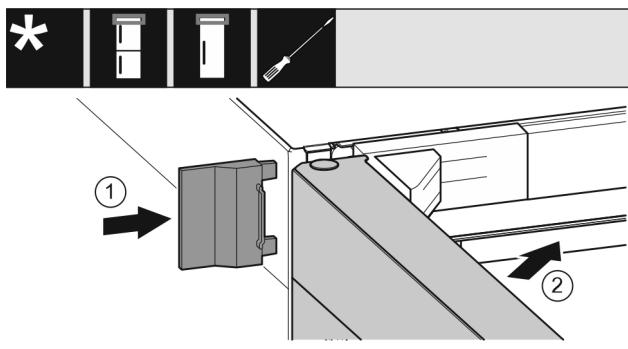

Fig. 24
- ▶ Slide on the outer cover Fig. 24 (1).
- ▶ Close the top door Fig. 24 (2).